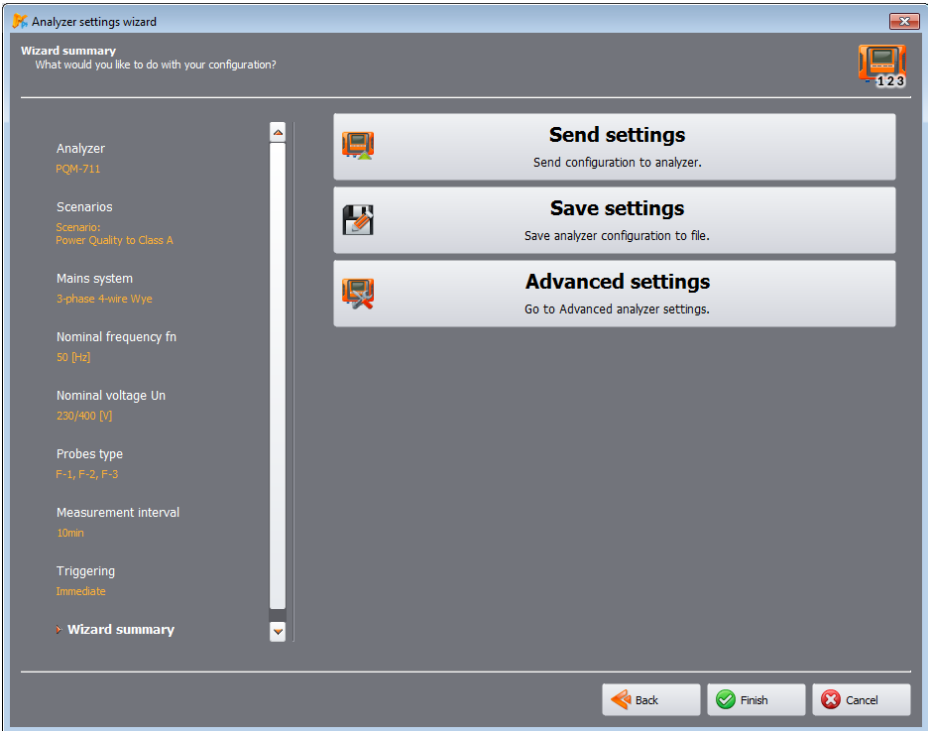

Fig. 15. Settings wizard – summary.
- **WIZARD SUMMARY** – the last step of the wizard (Fig. 15) allowing user to send the created settings to the analyzer (click **SEND SETTINGS**). If the analyzer is not connected, the selection and connection procedure will be started (sec. 2.1), and then the settings will be sent. Note: The entire contents of the memory will be deleted. The wizard as default uses **CONFIGURATION 1** of the analyzer; it also reserves for it the entire analyzer memory space. The setting created with the Wizard may be saved on the disk for later use as a file \*.settings (option **SAVE SETTINGS**). Alternatively, you can select **ADVANCED SETTINGS**, where the initial settings may be viewed and modified and then sent to the analyzer (window **ADVANCED RECORDING SETTINGS**, will be shown as in sec. 3.2).